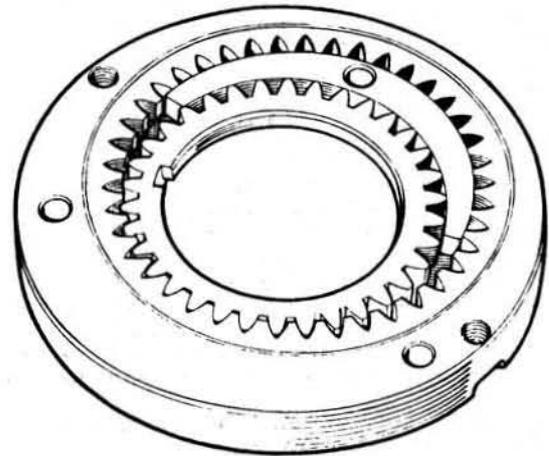

Fig.6.25. The oil pump
- 18 From this point onwards follow the instructions given in Section 5 paragraphs 27-42 to complete assembly of the gearbox. However, in this case the oil pump (Fig.6.25) must be refitted to the rear extension of JC boxes. Refit the gears to the